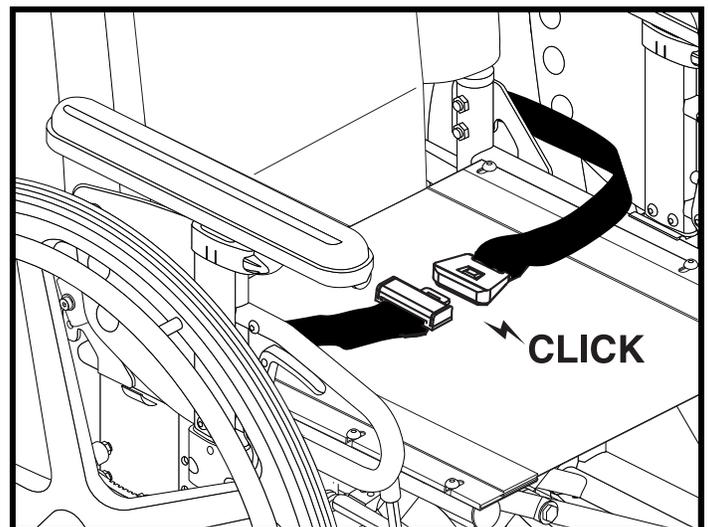

Figure 43. Positioning Belt Adjustment
1. Once seated, insert the metal tab on one side of the belt into the plastic housing on the opposite side until you hear a click. See figure 43.